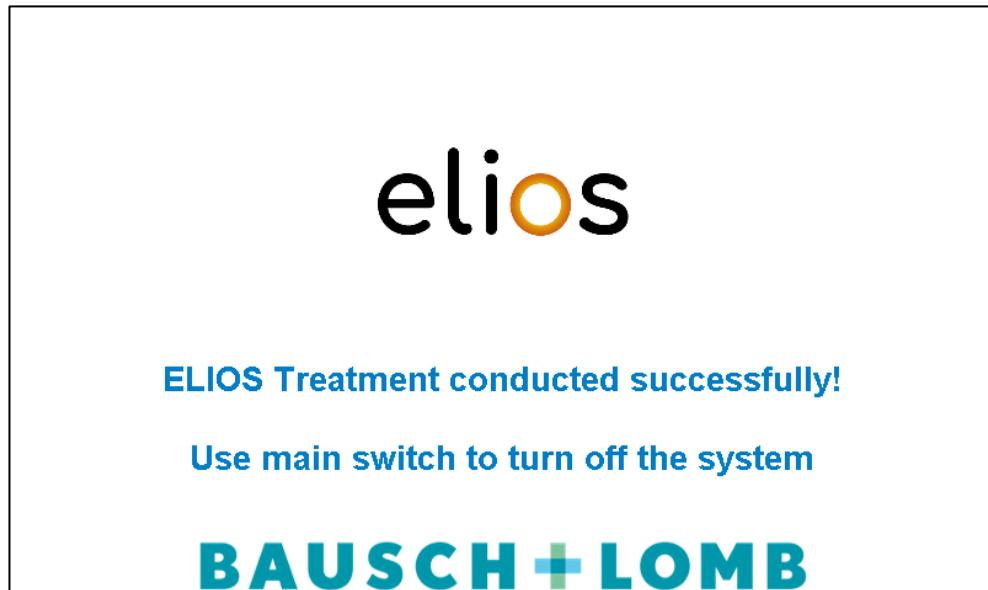

Fig. 4-17: End of treatment
- After completion of the treatment a summary is shown (Fig. 4-17).